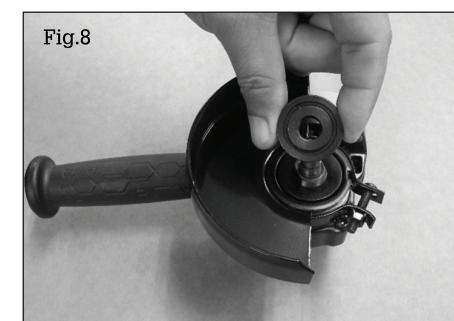

Fig.8
7.1 For cut the work piece, put inner flange with diameter 16 mm upside down. By inner flange facing up with diameter 20 mm. (Figure 8.)